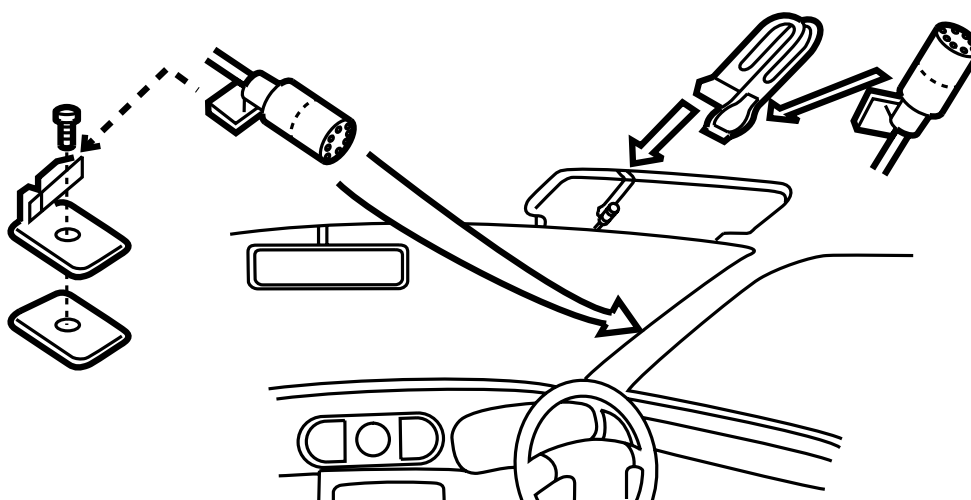

Figure 5: Microphone Installation
- 2 Mount the microphone onto the sun visor as shown in figure 5